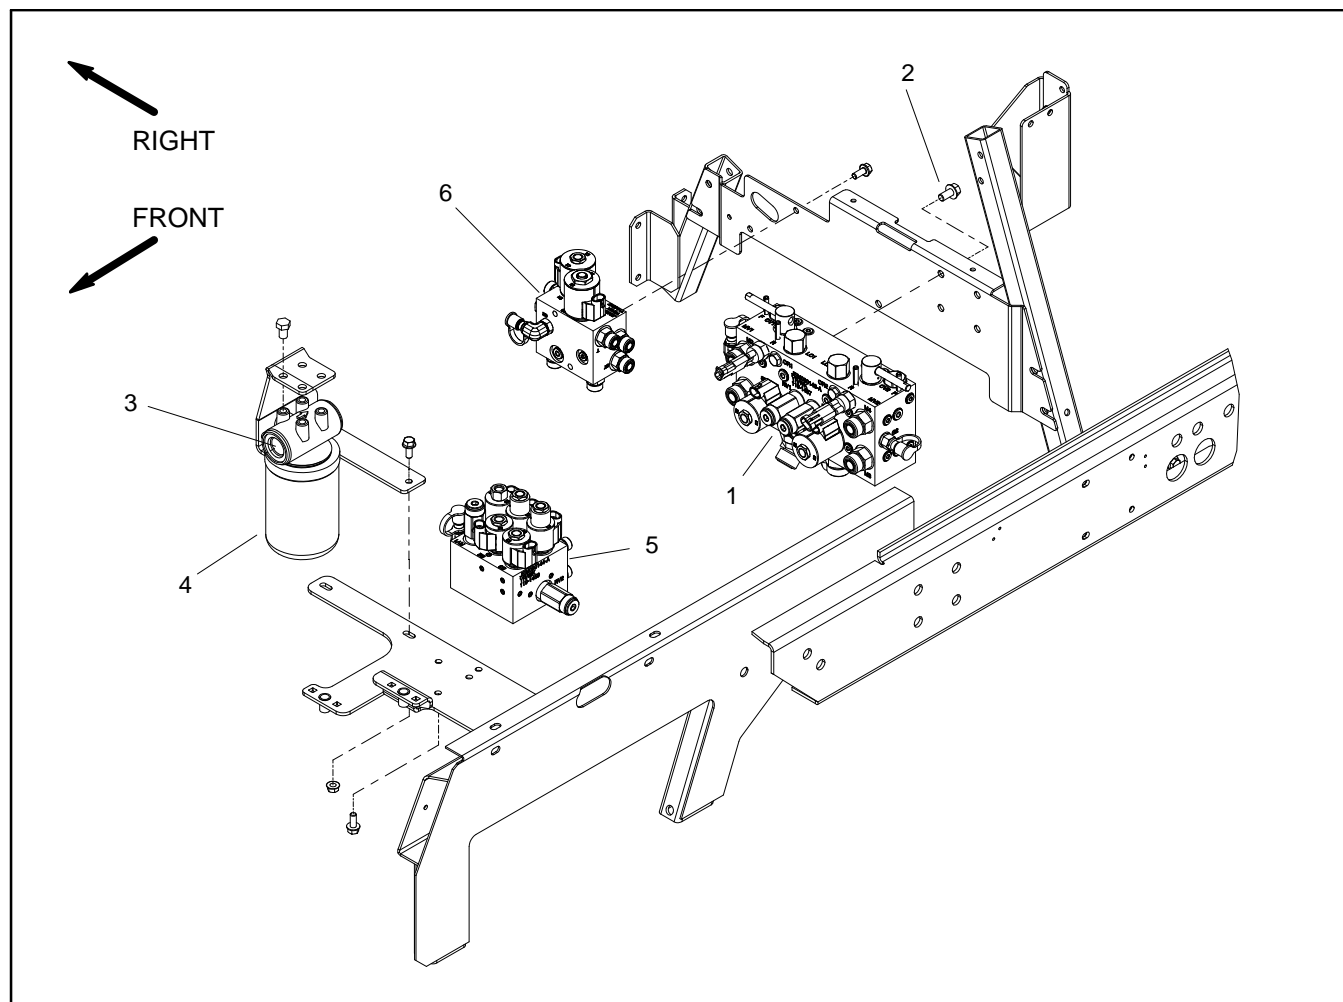

Figure 72
## Removal (Fig. 72)
7. Remove hydraulic manifold from the frame using Figure 72 as guide.
## Installation (Fig. 72)
2. Install hydraulic manifold to the frame using Figure 72 as guide.